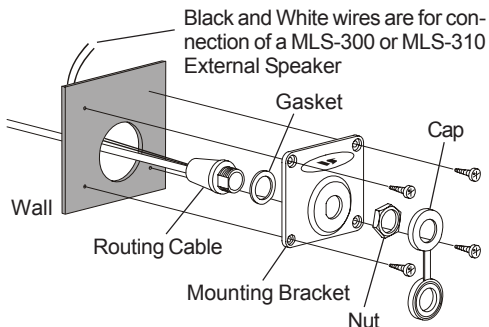

Figure 4
2. Referring to Figure 4, make a 1.2" (30 mm) hole in the wall, then insert the Routing Cable into this hole. Connect the Gasket and Mount Base to the Routing Cable Connector using the Nut.